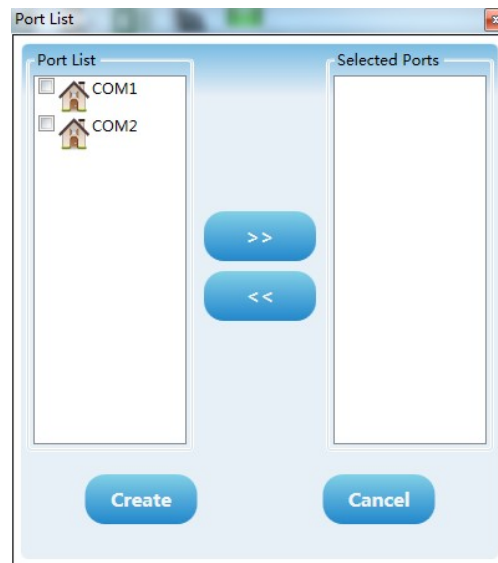

Figure 4.4 Add serial interface
- Then connect the RS232 (or RS485/RS422) interface of the gateway to the serial port of the computer with a serial cable (or 485/422 to serial cable), and finally power on the gateway. At this time, the power indicator (PW) of the gateway should be constant bright.
- Start the configuration software, right-click "Host" in the device list, click "Add Serial Port", the port list window will pop up as shown in Figure 4.4, select the serial port currently connected to the gateway in the "Port List" on the left, Click the button  to move it to the "selected port" on the right, and finally click the button , then the selected serial port COMx will appear under the host in the device list.